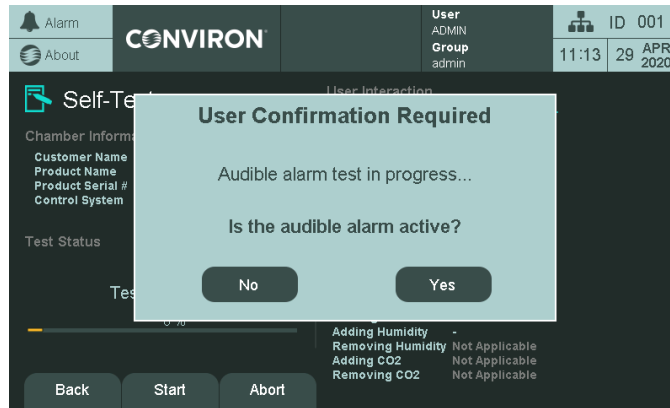

Figure 10-16 Audible Alarm Confirmation Message
3. When prompted, the user intervention portion must be completed locally at the chamber using the HMI. Using the HMI, click Yes or No to indicate whether or not the buzzer is functioning correctly (Figure 10-16).